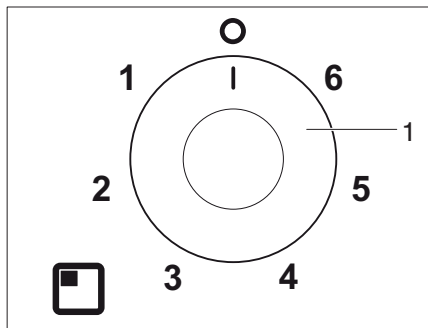

Fig. 118 Control knob for electric hotplate
- ▶ Rotate the control knob (Fig. 118,1) either clockwise or anti-clockwise to the required position (1 - 6).
- ▶ Turn the control knob (Fig. 118,1) to the 0 position to turn off the hotplate.